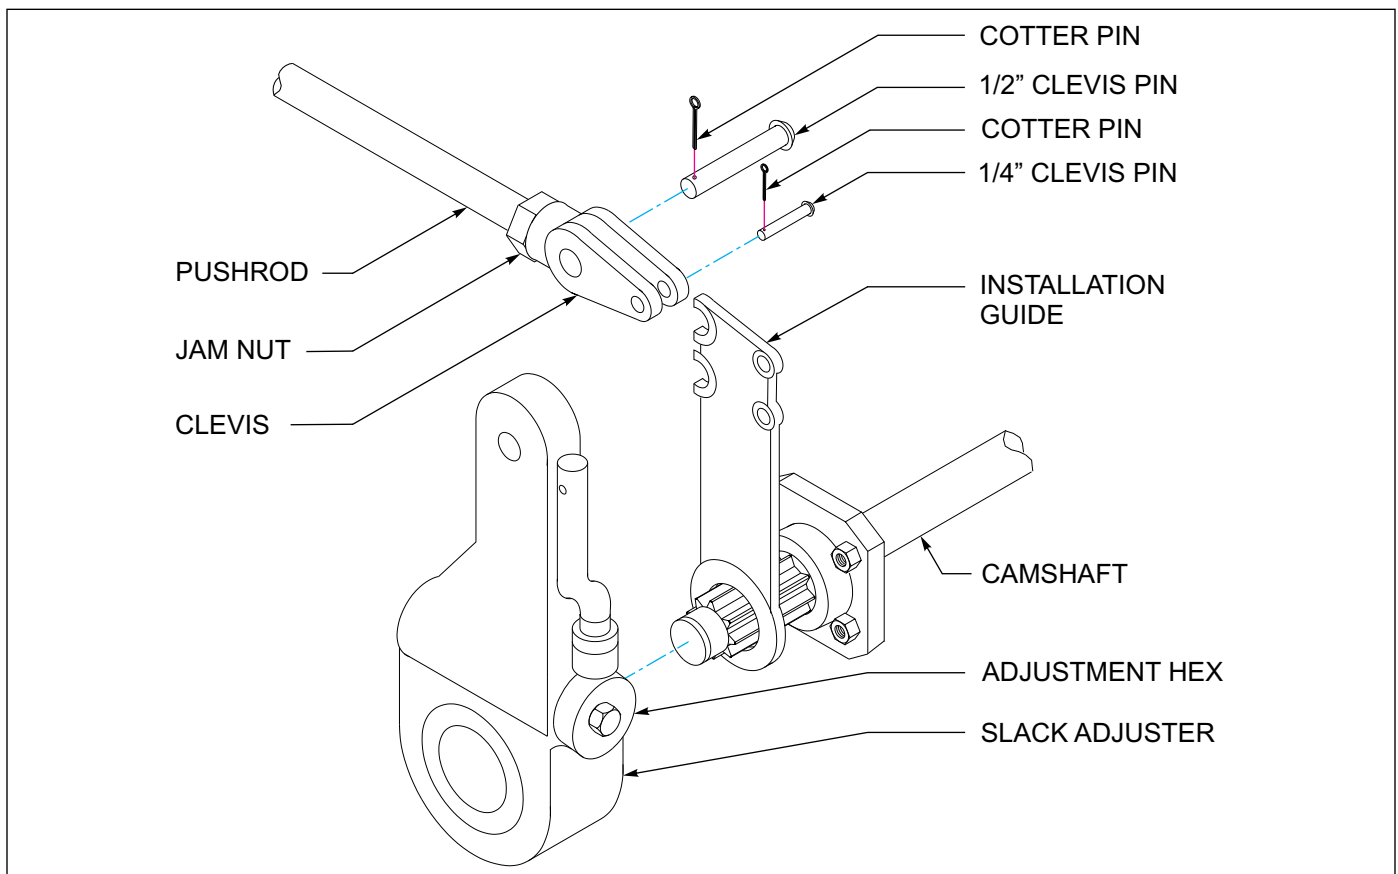

Figure 4-13: Slack Adjuster
4. Disconnect the slack adjuster from the connecting rod by removing the clevis pin (*See Figure 4-13.*)
4. Remount the brake chamber on the axle brackets and reconnect the air service hoses and the slack adjuster connecting rod (*See Figure 4-13.*)
2. Check that the push rod is fully retracted, apply air to release spring brake (*See Figure 4-13.*)